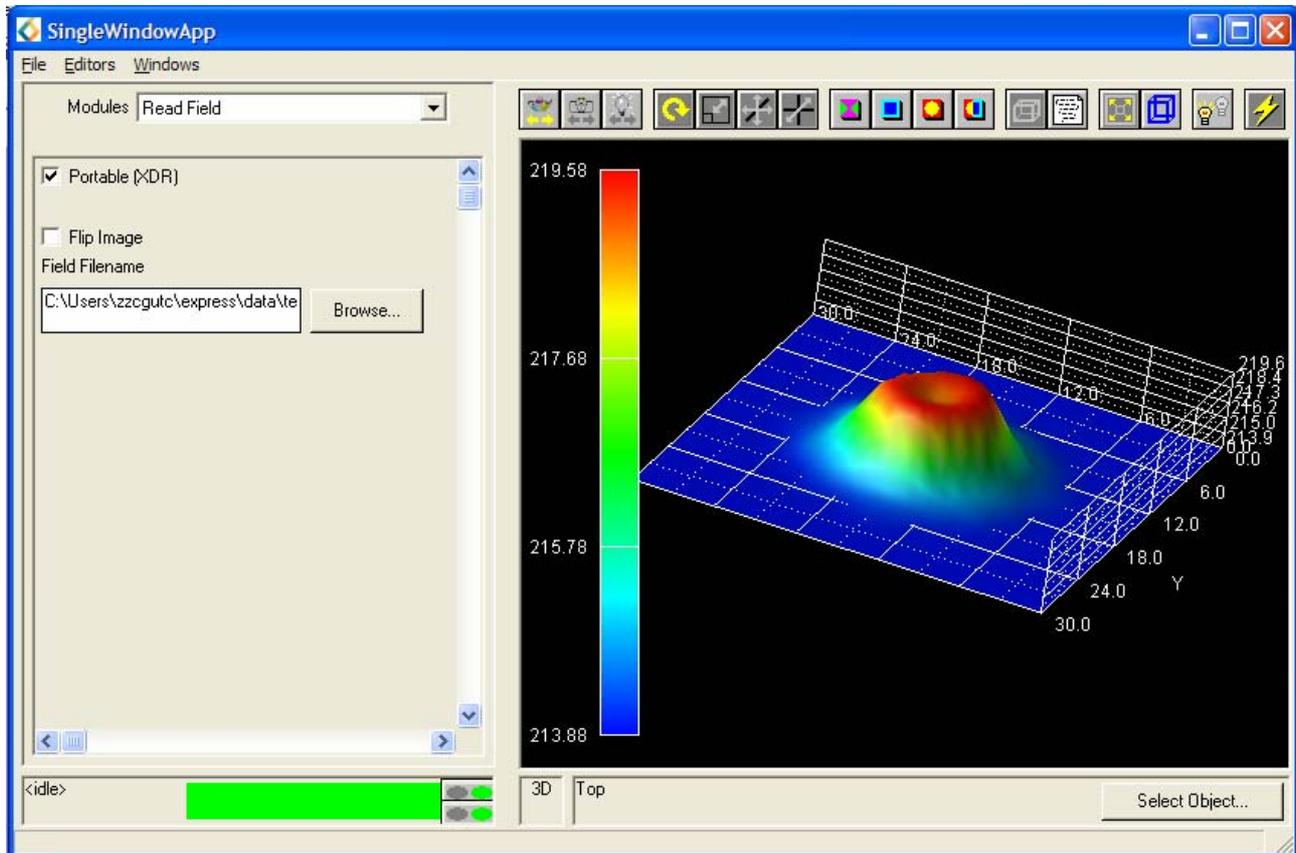

Figure 3.10: Transformed Image in the Data Viewer Pad
- Using the mouse, transform the object so it appears similar to that of Figure 3.10.